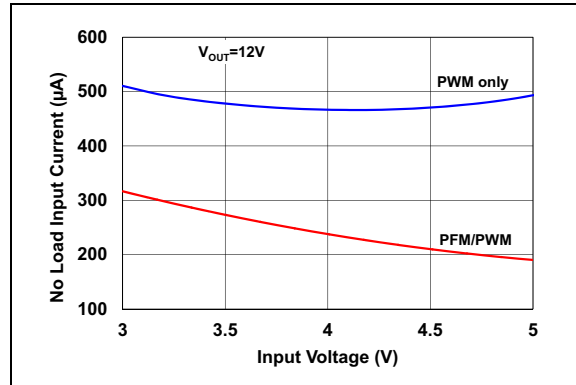

FIGURE 2-8: No Load Input Current, I_{IN0} vs. V_{IN} ($EN = V_{IN}$).
- I_{IN0} varies with input and output voltage and input capacitor leakage (Figure 2-8). I_{IN0} is measured on the V_{IN} pin when the device is switching (EN = V_{IN}), at no load, with $R_{TOP} = 180\text{ k}\Omega$ and $R_{BOT} = 20\text{ k}\Omega$.
- 2:** I_{IN0} varies with input and output voltage and input capacitor leakage (**Figure 2-8**). I_{IN0} is measured on the V_{IN} pin when the device is switching ($EN = V_{IN}$), at no load, with $R_{TOP} = 180\text{ k}\Omega$ and $R_{BOT} = 20\text{ k}\Omega$.